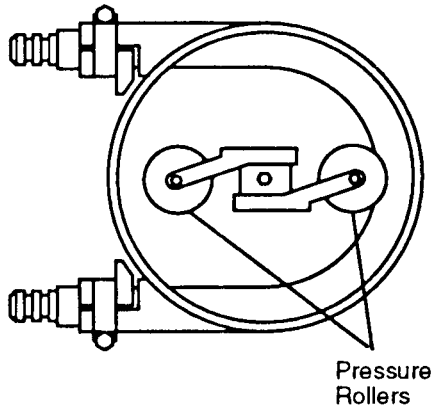

Fig. 1
2. For easier adjustment, check that the pressure rollers are in the position shown in Fig. 1 (one roller compressing the middle of the hose, and one roller free).
- Note:** Model 2006 and 2007 pumps use a different rotor assembly than the one shown in Fig. 1.